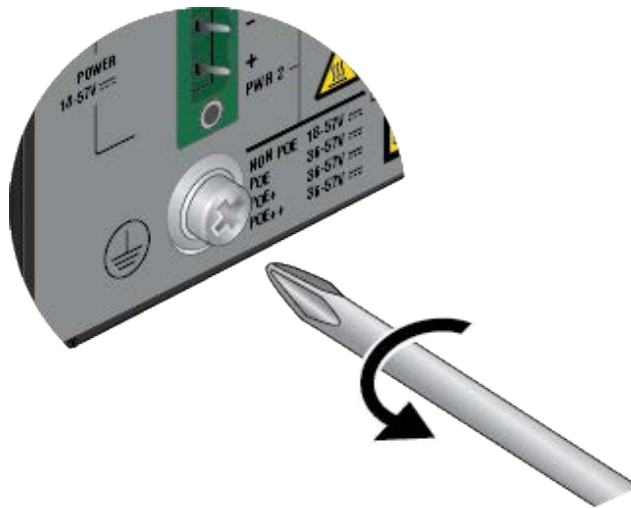

Figure 42. Removing the Grounding Screw
7. Remove the grounding screw from the switch with a #2 Phillips-head screwdriver. Refer to Figure 42.